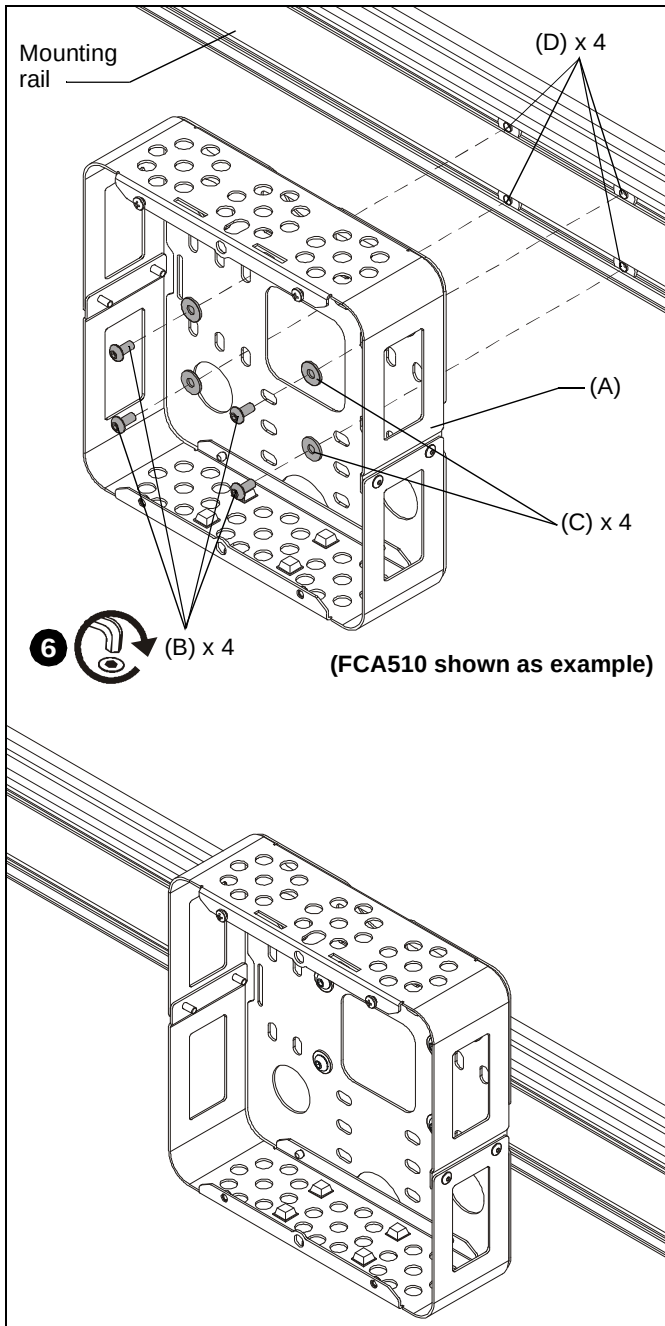

Figure 5
6. Attach FCA510/FCA515 (A) to T-slot nuts (D) using four 5/16-18 x 1/2" buttonhead screws (B) and four 5/16" flat washers (C) into installed T-slot nuts (D). (See Figure 5)